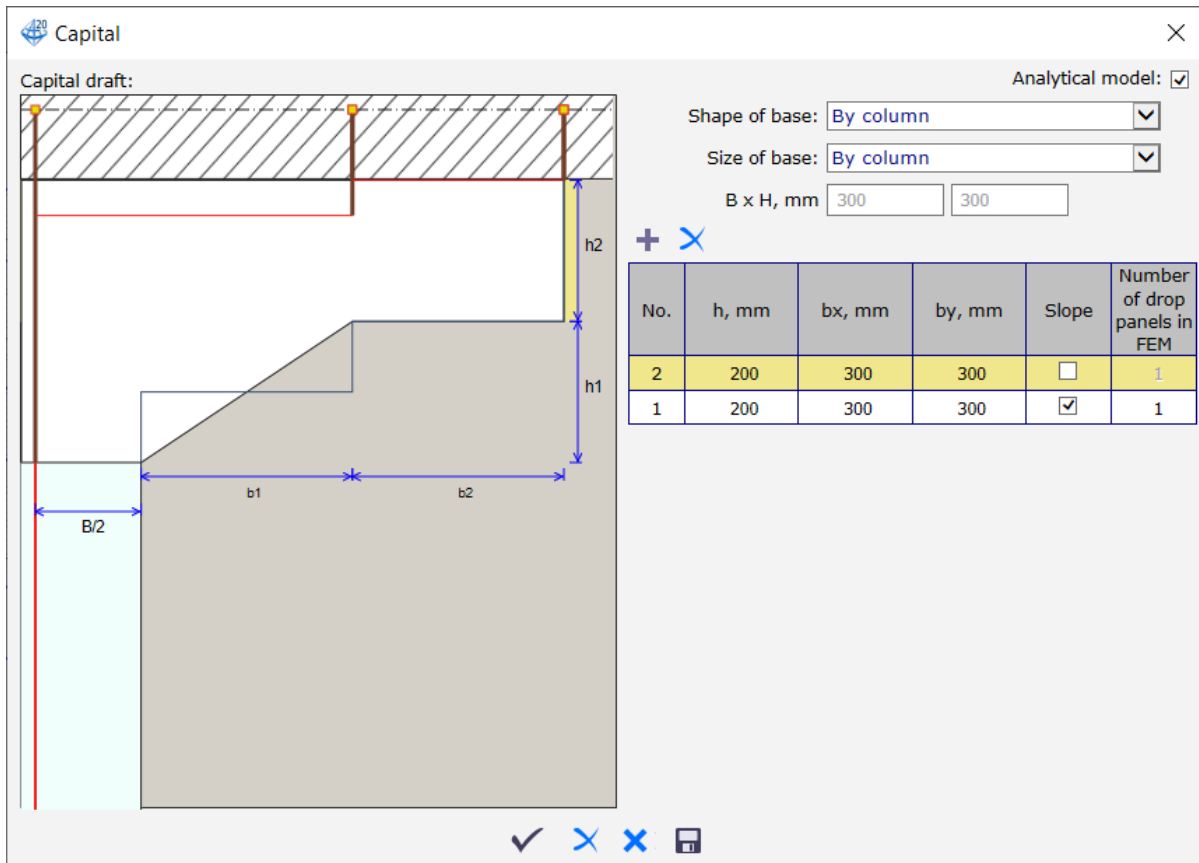

Figure 23.6. **Capital** dialog box
- ⇒ In the **Capital** dialog box (see Fig. 23.6), click the **Add drop panel** button  to define the drop panel for the capital. Then select the row and define the following data: